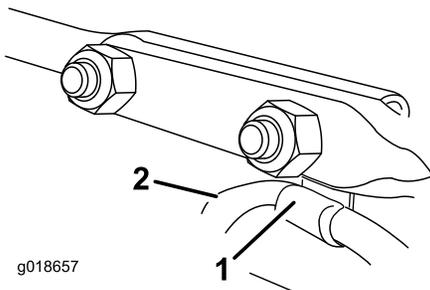

Figure 16
- 6. Insert the cable clip that supports the deflector cable onto the forward carriage bolt, and secure the carriage bolts with locknuts from the loose parts bag (Figure 16).